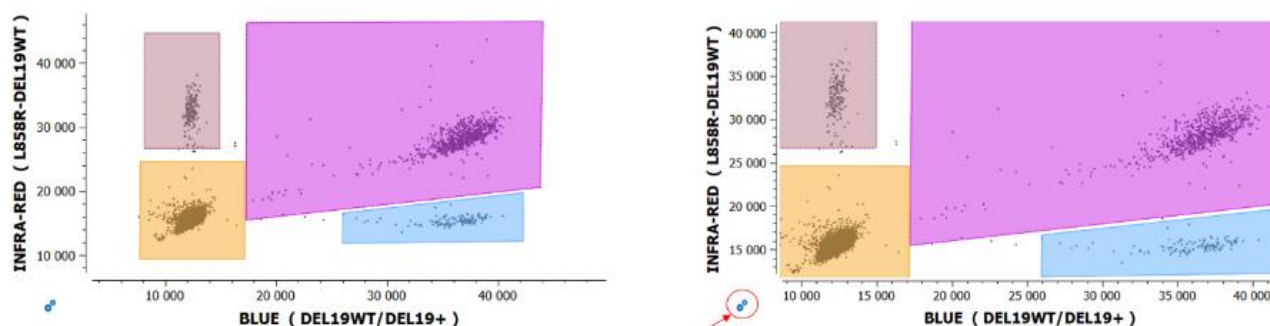

Figure 4: The Nio™ Analyzer software 2D dot plot for data visualization and analysis.
2. Go to the menu “ANALYZE DATA > Plots & Populations > 2D dot plot”. If needed, double click on the graph to adjust the axis scales, and if not sufficient click on the blue gear below the 2D graph (indicated by the red arrow in Figure 4 below) to manually enter the desired value.